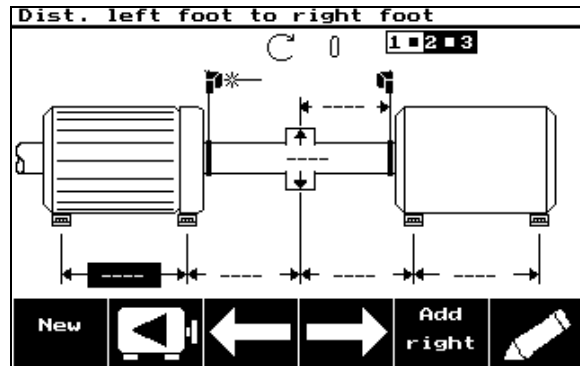

Figure A2
- 1) Press the **Add right** softkey. This adds another machine to the right of the right machine, and in the top right-hand corner of the screen you will see the icon **1 2 3**, indicating that you are in the Dimensions screen for machines 2 and 3. See *Figure A2*.